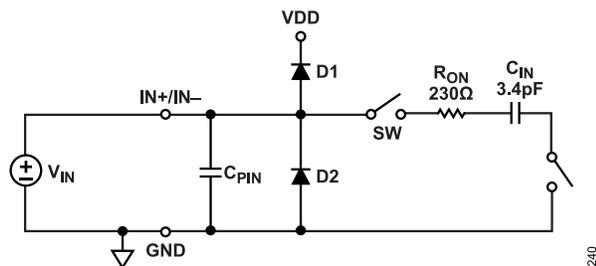

Figure 40. Equivalent Analog Input Circuit
Figure 40 shows an equivalent circuit for each of the AD4060 analog inputs (IN+ and IN−). The analog inputs are modeled as a switched capacitive load. During the acquisition phase, the sampling switch (SW) connects each input pin to the 3.4pF sampling capacitor (C_{IN}) in series with the 230Ω switch on resistance (R_{ON}). During the conversion phase, SW disconnects to sample the voltages on the IN+ and IN− pins onto the sampling capacitors. D1 and D2 represent the ESD diodes from the IN+ and IN− pins to the VDD supply and GND, respectively. C_{PIN} represents the pin capacitance of each input pin to GND and is typically 2pF.